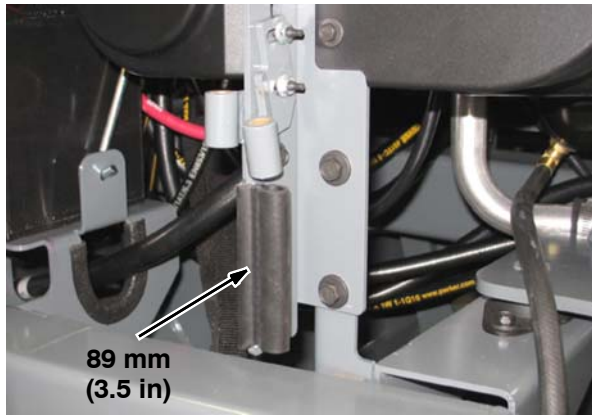
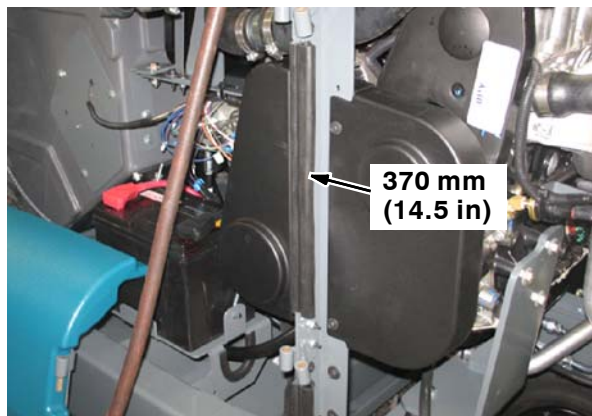

FIG. 70
FIG. 71
86. Install the 89 mm (3.5 in) and 370 mm (14.5 in) seal (103) onto support brace (31). (Fig. 70 / Fig. 71)